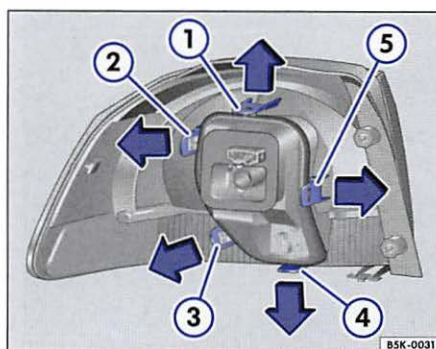

Fig. 175 Taillight in the body of the vehicle: Removing bulb holder. ① to ⑤: Locking lugs.
7. To unlock the bulb holder, press the locking lugs $\Rightarrow$ fig. 175 ① to ⑤ in direction of the arrow.